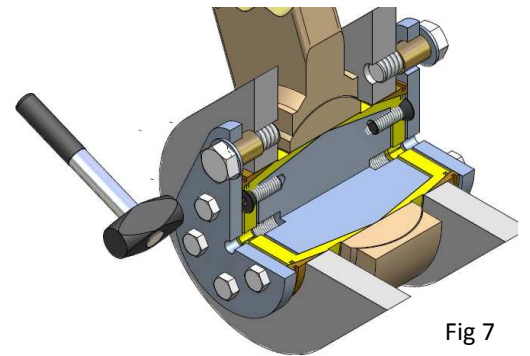
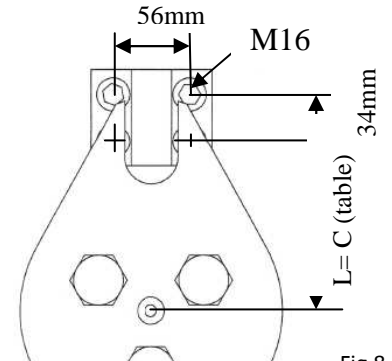

Fig 7
Fig.8
- 4.1 Line up the Bondura bolt radial for the anti rotation screw to fit the holes in both ends of the support (see Fig 7). See in the table, for the dimension and location of the screws.
- 6.2 Knock with a heavy hammer all around the plate, to be sure that the cone sleeves have expanded properly (see Fig.7).
- 7.1 As an extra precaution, the locking plate must be fastened with a locking screw (1) to the equipment. Use the clamping screw protector to ensure that the locking plate is not bent when tightening the locking screw (see Fig. 7). An alternative is to use a locking bracket instead of the screw. This is fastened to the equipment by 4 ea M16x50 mm screws (see Fig 8).